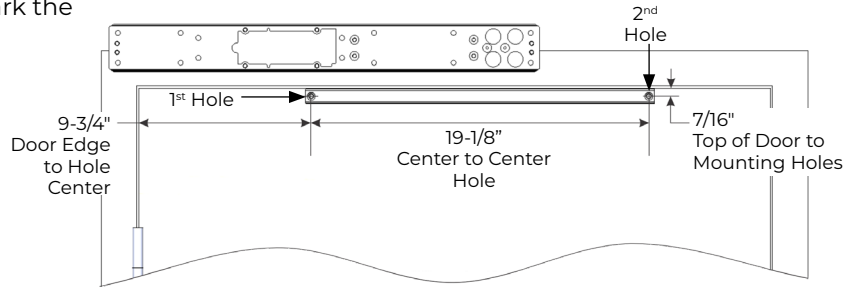

Figure 4
- Using the template (available for download from www.nortonrixson.com), measure and mark the first track mounting hole. (Figure 4)